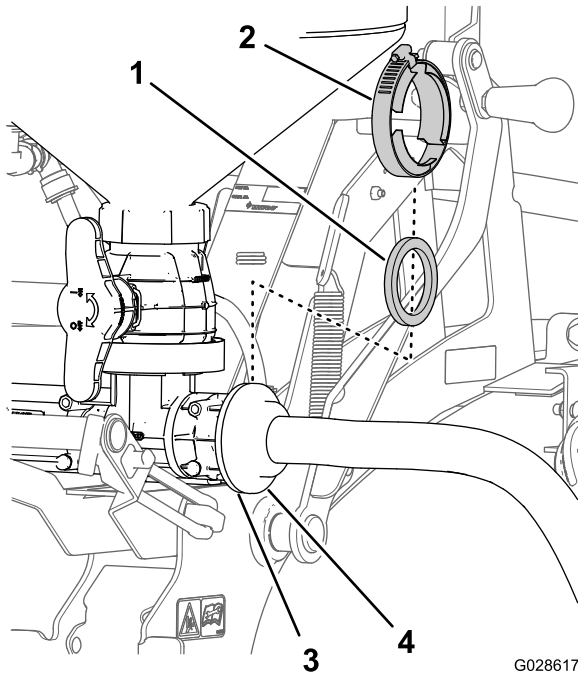

Figure 26
1. Align the flanged fitting of the supply hose to the flange of the eductor (Figure 26).
2. Secure the supply hose to the eductor with a gasket and flanged clamp (Figure 26).